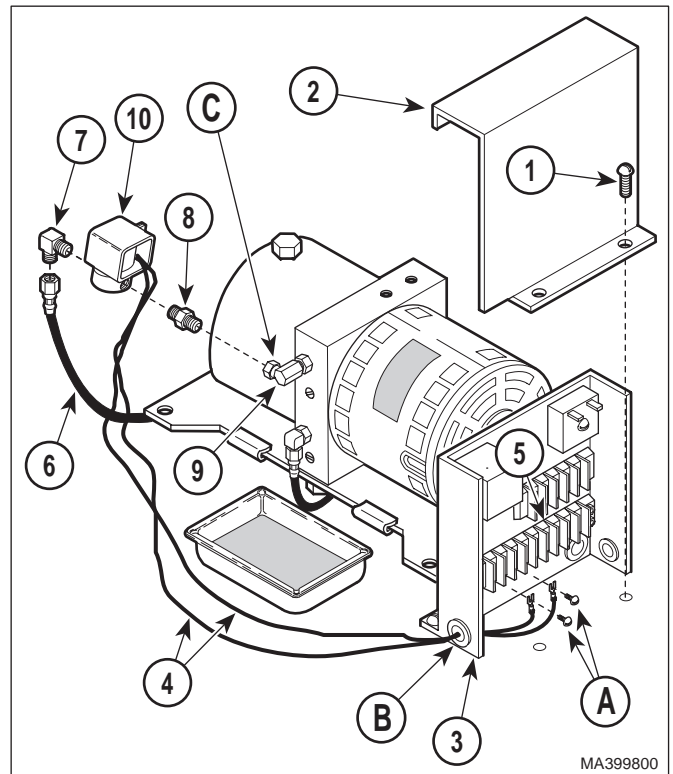

Figure 4-5. Anti-cavitation Solenoid Valve Removal / Installation
- (1) Unplug table power cord from outlet.
- (2) Remove motor cover assembly (Refer to para 4.2).
- (3) Remove two screws (1, Figure 4-5) and control cover (2) from control panel (3).
- (4) Loosen two terminal screws (A); then tag and disconnect anti-cavitation solenoid valve wires (4) from terminal block (5).
- (5) Pull anti-cavitation solenoid valve wires (4) out thru wire hole (B).
- (6) Disconnect hose assembly (6) from elbow (7).
- (7) Using a wrench to hold male connector (8) stationary, loosen jam nut (C) of elbow (9). Disconnect male connector from elbow.
- (8) Remove elbow (7) and male connector (8) from anti-cavitation solenoid valve (10).